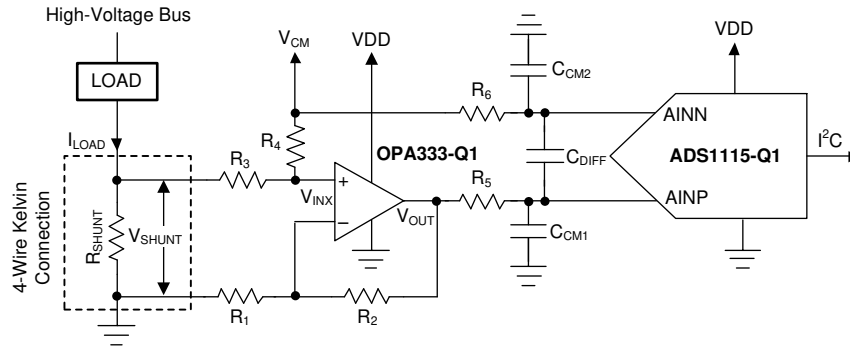

Figure 9-6. Low-Side Current Shunt Monitoring
Shunt-based, current-measurement solutions are widely used to monitor load currents. Low-side, current-shunt measurements are independent of the bus voltage because the shunt common-mode voltage is near ground. Figure 9-6 shows an example circuit for a bidirectional, low-side, current-shunt measurement system. The load current is determined by measuring the voltage across the shunt resistor that is amplified and level-shifted by a low-drift operational amplifier, OPA333-Q1. The OPA333-Q1 output voltage is digitized with ADS1115-Q1 and sent to the microcontroller using the I²C interface. This circuit is capable of measuring bidirectional currents flowing through the shunt resistor with great accuracy and precision.
1. To level-shift the ground-referenced signal to allow bidirectional current measurements while running off a unipolar supply. The voltage across the shunt resistor, V_{SHUNT} , is level-shifted by a common-mode voltage, V_{CM} , as shown in Figure 9-6. The level-shifted voltage, V_{INX} , at the noninverting input is given by Equation 5.
A shunt resistor (R_{SHUNT}) is an accurate resistance inserted in series with the load as shown in 图 9-6. If the absolute voltage drop across the shunt, $|V_{SHUNT}|$, is a larger percentage of the bus voltage, the voltage drop can reduce the overall efficiency and system performance. If $|V_{SHUNT}|$ is too low, measuring the small voltage drop requires careful design attention and proper selection of the ADC, operation amplifier, and precision resistors. Make sure that the absolute voltage at the shunt terminals does not result in violation of the input common-mode voltage range requirements of the operational amplifier. The power dissipation on the shunt resistor increases the temperature because of the current flowing through the resistor. To minimize the measurement errors resulting from variation in temperature, select a low-drift shunt resistor. To minimize the measurement gain error, select a shunt resistor with low tolerance value. To remove the errors caused by stray ground resistance, use a four-wire Kelvin-connected shunt resistor, as shown in 图 9-6.